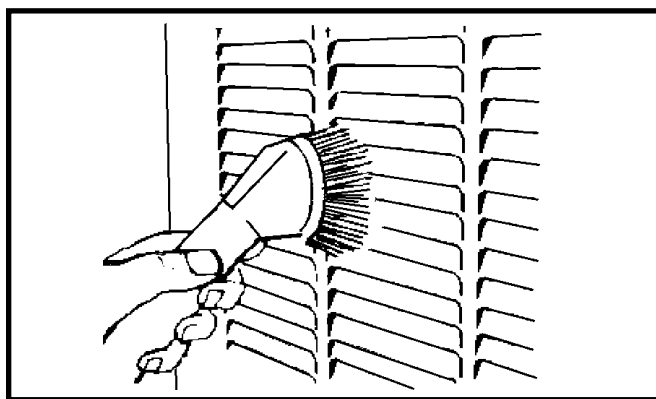

Figure 36. Periodic Cleaning
- On some closet installations, the return air opening to the furnace may be on the floor, in the door, in the side wall of the closet, or any combination of these. The upper grille on the front of the furnace admits return air to the blower. Return air must be provided back to the circulating blower in order to provide air distribution. See Figure 36.